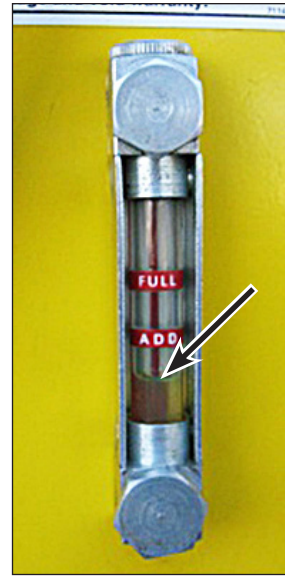

Figure 135: Typical Oil Level for Recently Operated Pumps.
The typical oil level for a pump that has been operating and then brought to a stop is shown in (Figure 135). The oil level will be at or near the full mark only after the pump has been at rest for 5 to 8 hours.
1. With the engine off and clutch disengaged, check the oil level in the PTO sight gauge (Figure 135). The oil should be approximately half way up on the sight gauge.
2. Remove the drain plug (Figure 135) and allow the oil to fully drain from the case.